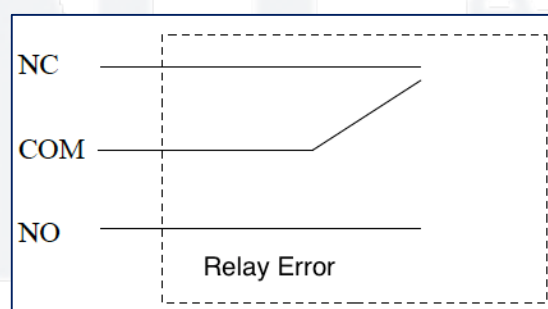

Fig.7
- Terminal X1-Rele/Relay Error. Output for Error status of the Control centre. Relay switch with occurrence of Error status in Control centre with maximum parameters of voltage commutation $-U=100V$ and current $-I=1A$. The switching scheme is shown in Fig. 7.